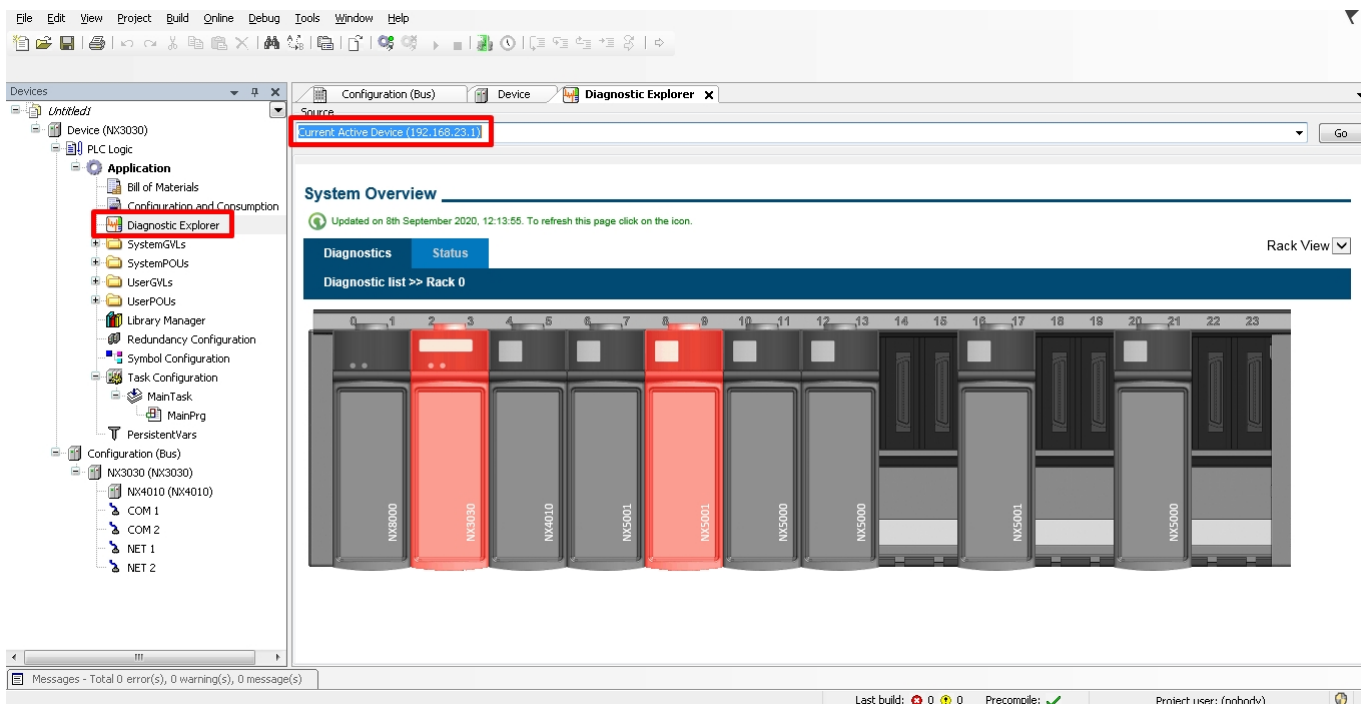

Figure 223: Diagnostic Explorer Screen
- Accessing the “*Diagnostic Explorer*” option in the device tree, placed on the MasterTool IEC XE screen left, and putting the correct IP in the field indicated on Figure 223. Remembering that for the diagnostics page to be shown, the user must be connected to the CPU ( Initial Programming – Login section).